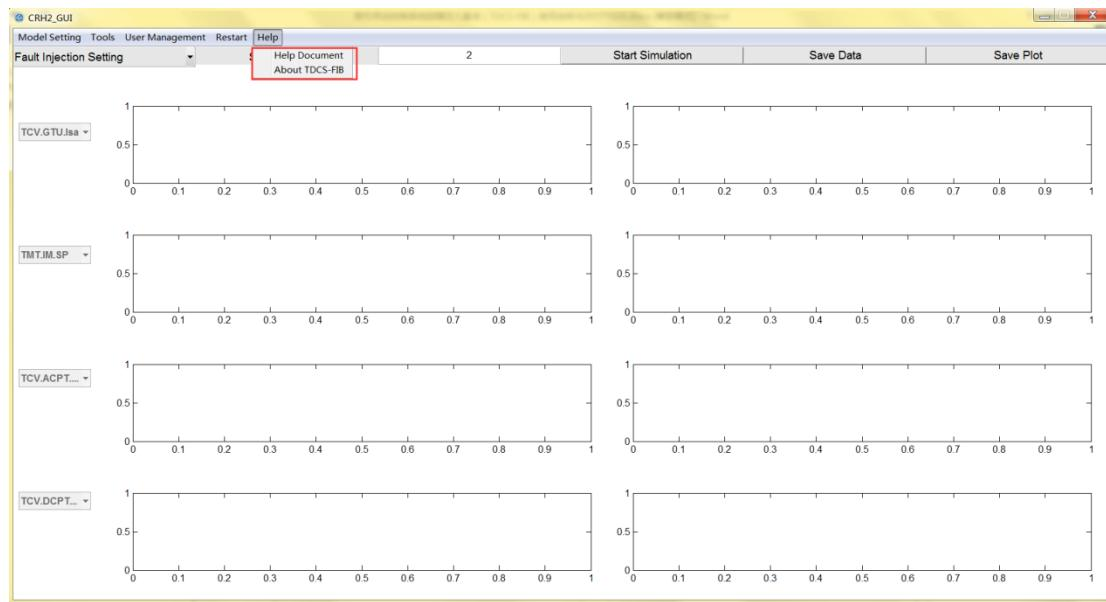
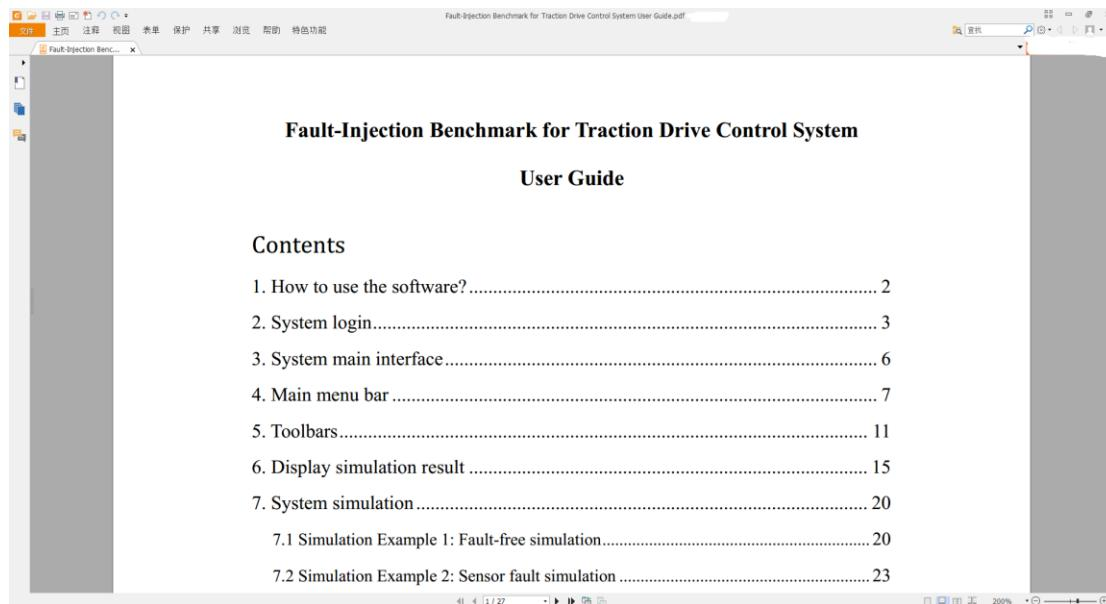

Fig. 21 Help
Fig. 22 Help Document
- 5) Click the ‘Help’ drop-down menu in the main menu bar, there are two options: ‘Help Document’ and ‘About TDCS-FIB’ will be shown in Fig. 21. Select the ‘Help Document’ option, you can view the usage of the software and some common problems as shown in Fig. 22.